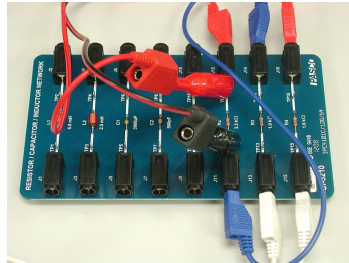

Fig. 3: V across 3.3 kΩ
1. Attach alligator clips to the banana connectors of the Voltage Sensor attached to Analog input C. Attach the red alligator to TP12 on the Circuit Board as shown in Figure 3. Attach the black alligator to TP 11.